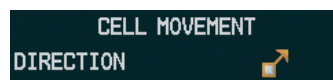

Figure 6-21 Cell Movement Legend
- 1) Select the **MAP** Softkey. This step is not necessary on the Weather Data Link (XM) Page.
- 2) Select the **NEXRAD** Softkey (**CEL MOV** Softkey on the Weather Data Link (XM) Page). For Cell Movement to be displayed on maps other than the Weather Data Link (XM) Page, Cell Movement must be enabled in the Navigation Map Setup Menu (see the procedure 'Setting up and customizing weather data for the Navigation Map Page').
To display the Cell Movement legend on the Weather Data Link (XM) Page, (Figure 6-21), select the **LEGEND** Softkey when Cell Movement is selected for display.